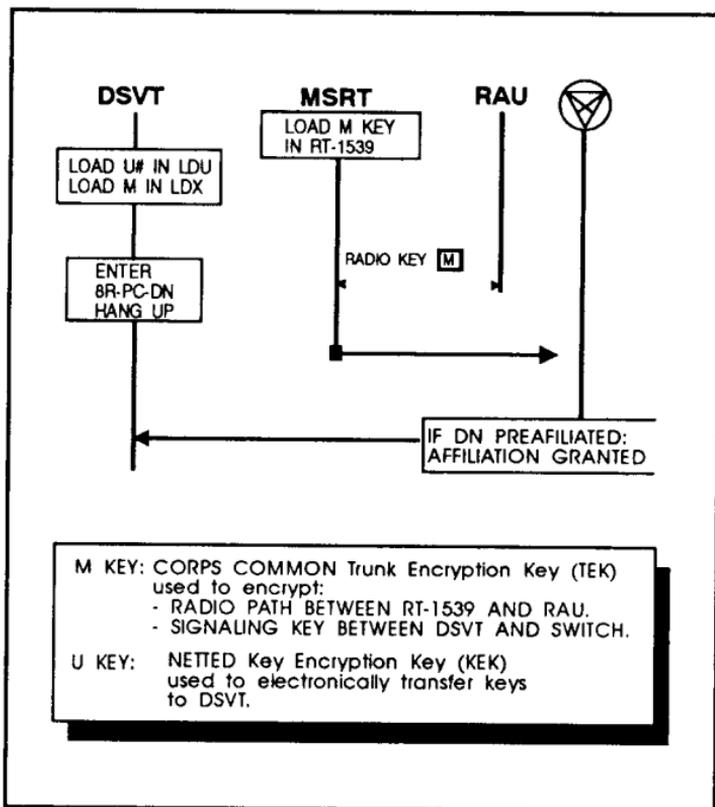

Figure 3-34. MSRT affiliation process.
(1) Perform all the preoperational adjustments and settings in accordance with TM 11-5820-1021-10.
(2) Turn on the radio.
(3) Load the M key - Connect the KYK-13 to the fill connector on the front panel of the RT-1539, ensuring that the KYK-13 selector (1-6) is in the position containing the M variable and the selector switch is in the ON position. Raise the Fill/Zero switch on the RT-1539 four times in rapid succession. **DO NOT RAISE MORE THAN FOUR TIMES.** If the crypto alarm light goes off, the fill was successful. If the light remains lit, remove the KYK-13 and zero the RT-1539 then attempt to reload the M variable. See Figure 3-34.
(4) Install the DSVT.